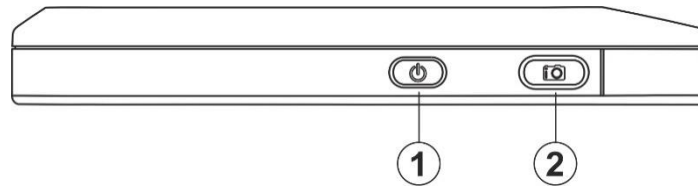

Fig. 3: Description of the instruments upper side
1. Touch the item “Flashlight” to activate/deactivate the instrument's built-in white LED illuminator (see Fig. 3 – part 1) . The following screen appears on the display: